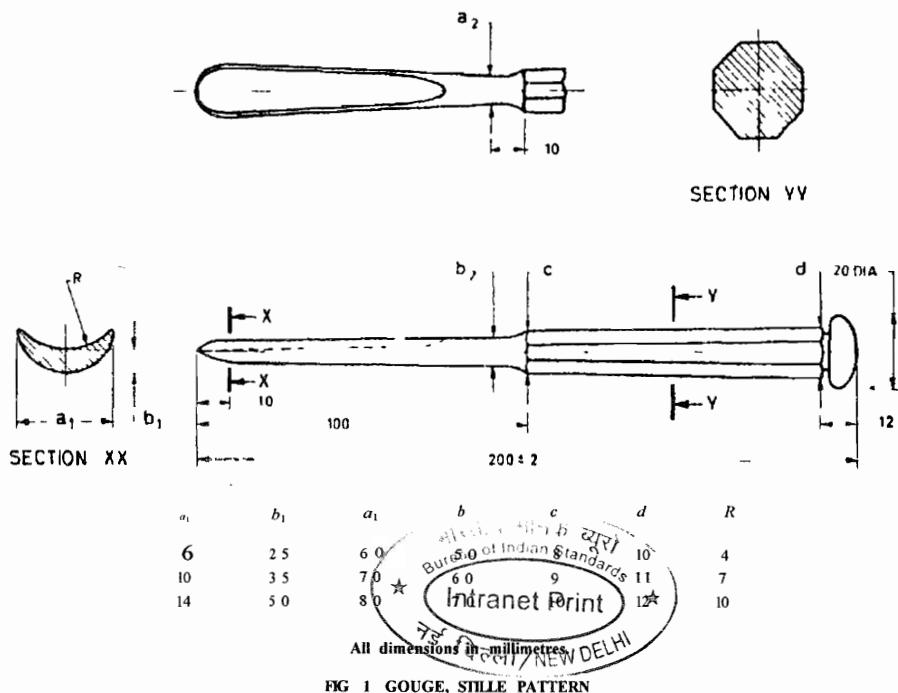

FIG 1 GOUGE, STILLE PATTERN
3. Shape and Dimensions — As shown in Fig 1